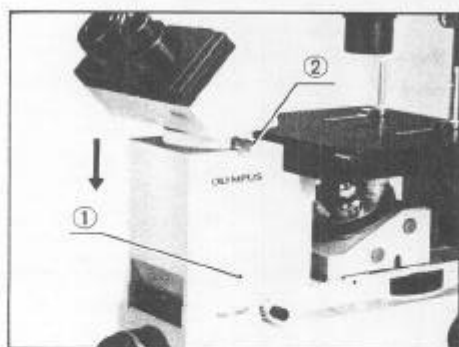

Fig. 14
Place the intermediate tube on the microscope base, and clamp screw ① with Allen wrench provided. (Fig. 14)
Loosen the clamping knob ② fully; insert the circular dovetail of the observation tube into the intermediate tube, and clamp. (Fig. 14)